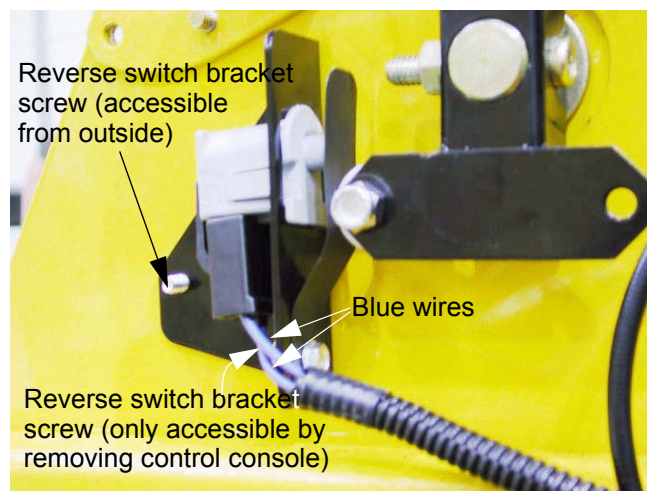

Figure 9.3
- 9.3. To adjust the reverse switch bracket, loosen the machine screws that hold the reverse switch bracket to the control housing using a 5/16" wrench. See Figure 9.3.